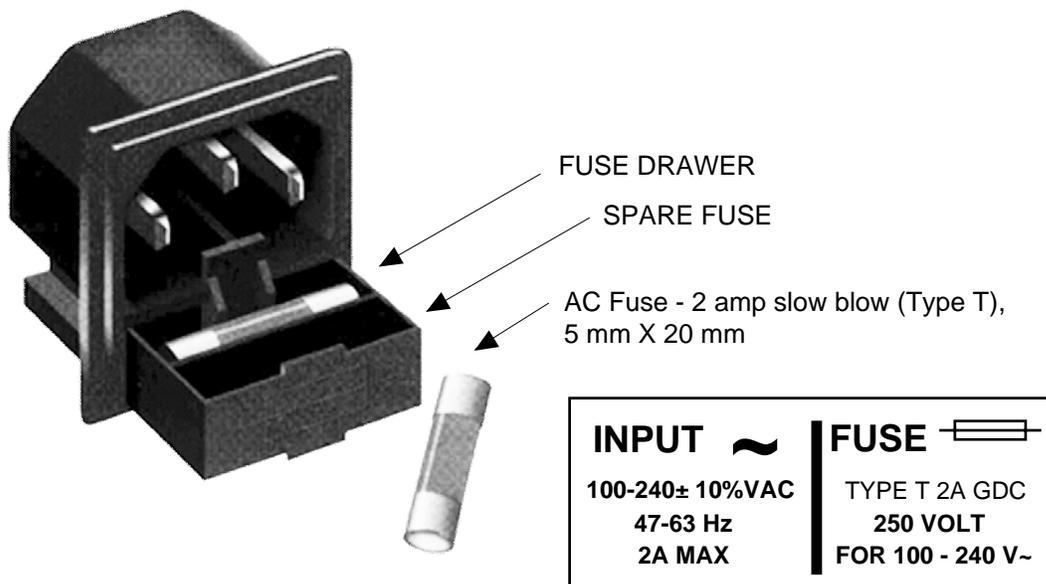

FIGURE 2.3 Fuse Location and Spare Fuse
9. AC FUSE - The fuse is a 5 mm X 20 mm, 2 amp slow blow (Type T) and is inserted in the far slot in the drawer below the AC input as shown in Figure 2.3. There is a spare fuse in the near slot. If a fuse continues to open, the power supply is most likely defective.